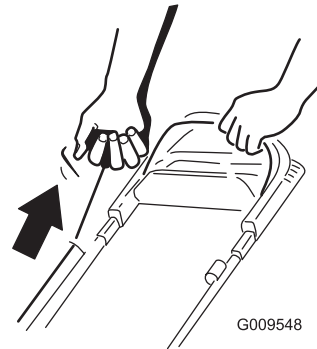

Figure 14
2. Pull the recoil-start handle (Figure 14).
(Figure 14). Allow the rope to return to the handle slowly.